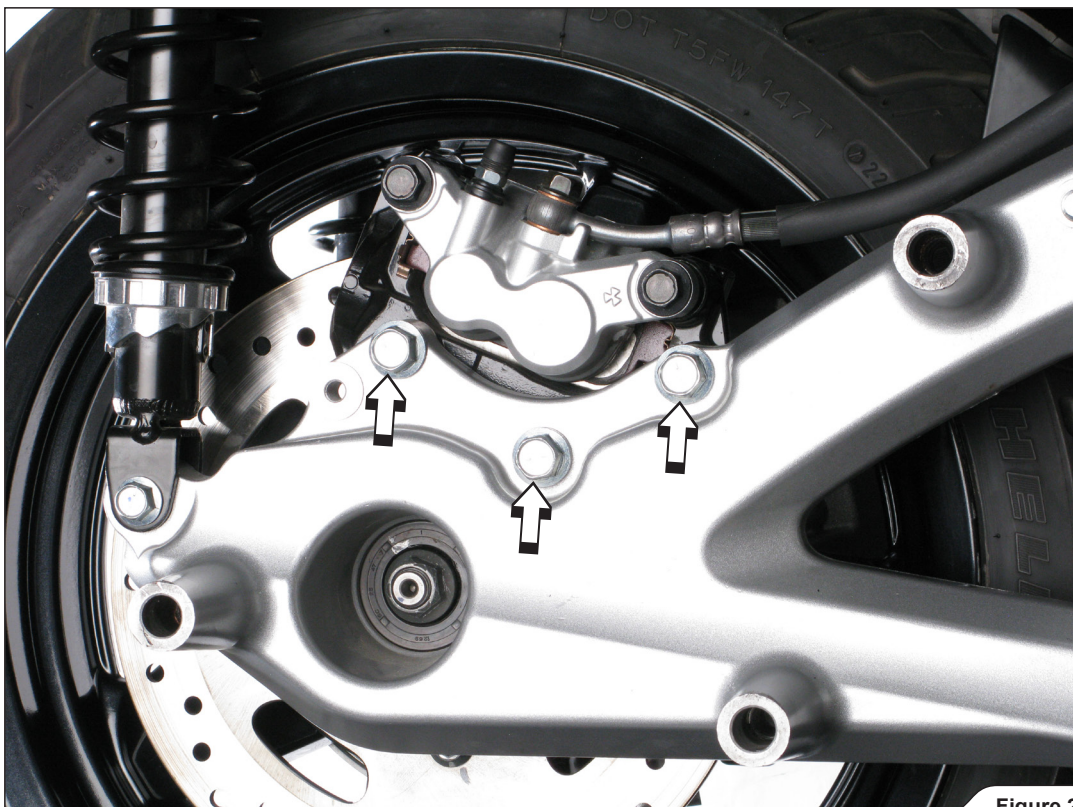

Figure 2
3. For X-MAX250 / X-CITY250 only: unscrew the marked rear brake caliper bolts (Figure 2).